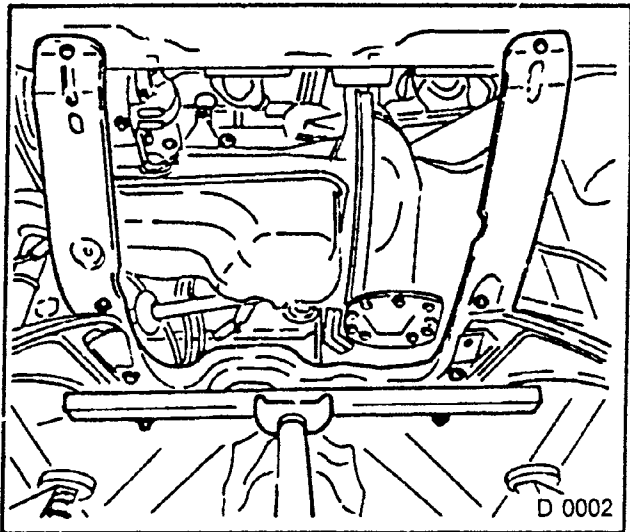

Fig. 69
- 5. Lower front axle body and remove. (Fig. 69 shows front axle body with long outrigger)